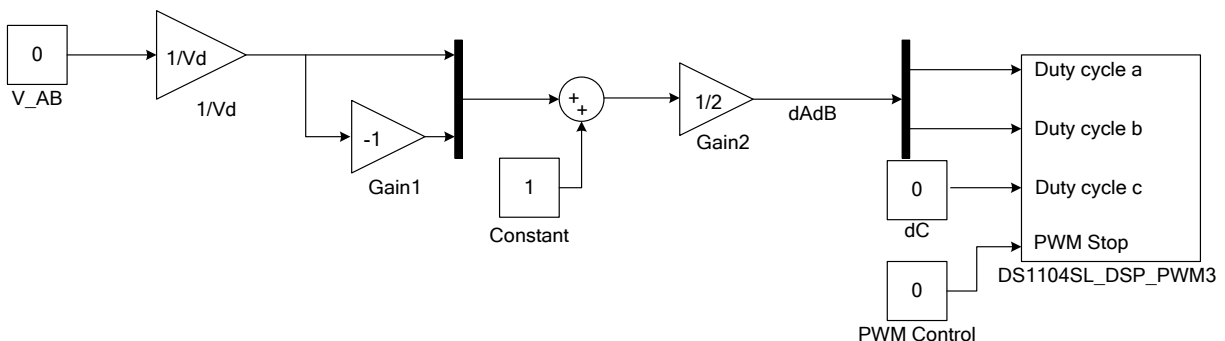

Figure 2.6: Control of a two-pole switch-mode converter in real-time
- Create the real-time model as shown in Fig. 2.6. Use the *Duty Ratio Calculator* from section 2.3.3.